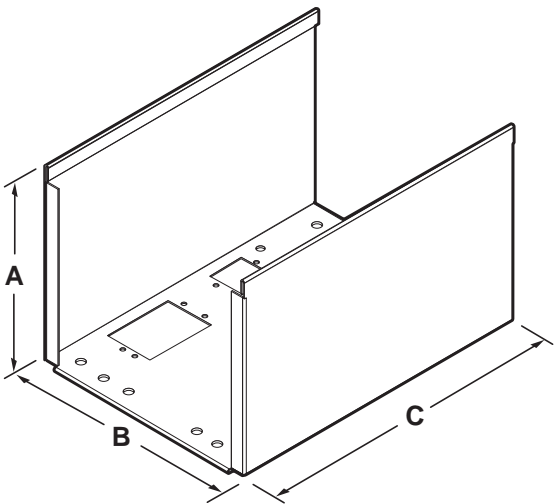

Figure A-1 — Clamshell dimensions
- Clamshell (figure A-1) A = 7.24" (18.39 cm)